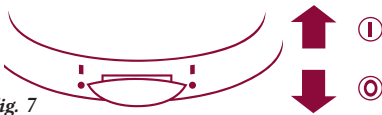

Fig. 7
- Flick the ON/OFF switch upwards to the ① position to turn the kettle on (fig. 7).
- The kettle has an ON/OFF switch (fig. 7) that turns the kettle off automatically when the water has boiled. To boil the water again it will be necessary to wait approx. 1 minute, after which the switch can be turned to the ① position again.